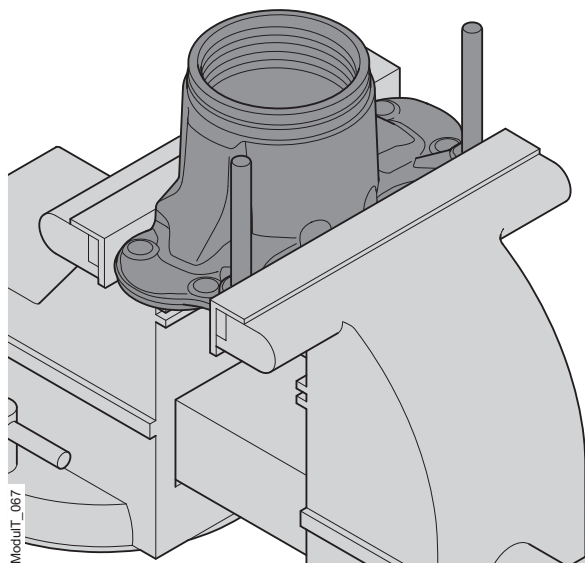

Figure 43. Clamping arrangement for thrust plate
1. Fasten the thrust plate in a vice fitted with soft jaws, see figure 43 for the clamping arrangement. Do not over tighten or damage the thrust plate whilst clamping!